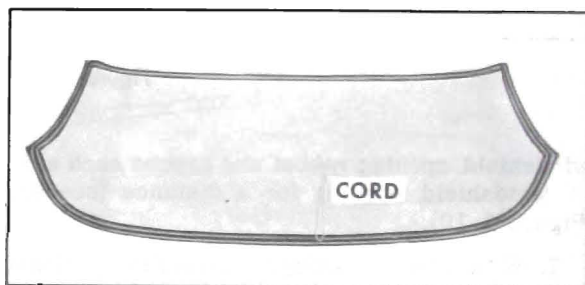

Figure 1-9—Windshield Installation
3. Install a strong cord in pinchweld cavity of rubber channel completely around windshield. Tie ends of cord and tape to inside surface of glass at bottom center of glass (Figure 1-9).